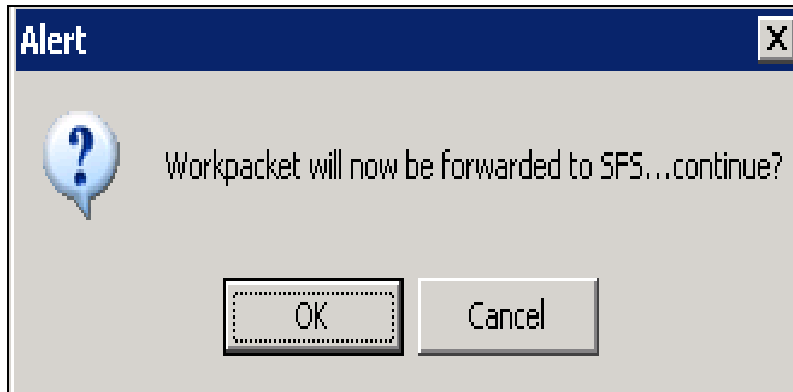

Figure 10-52: Forward Work Packet to SFS Dialog Box
9. The Forward Work Packet to SFS dialog box is displayed (Figure 10-52).